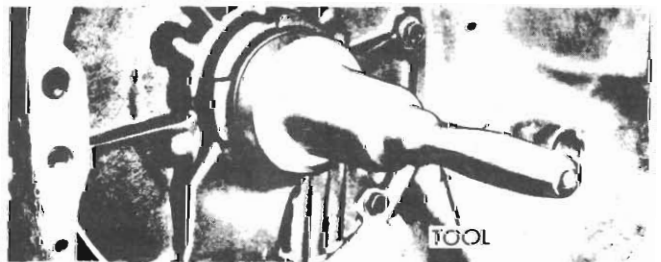

Fig. 28 - Installing pump oil seal (typical view)
(2) To install a new seal, place a seal in opening of pump housing (lip side facing inward). Using Tool E21C35F, drive seal into housing until tool bottoms (Fig. 28).